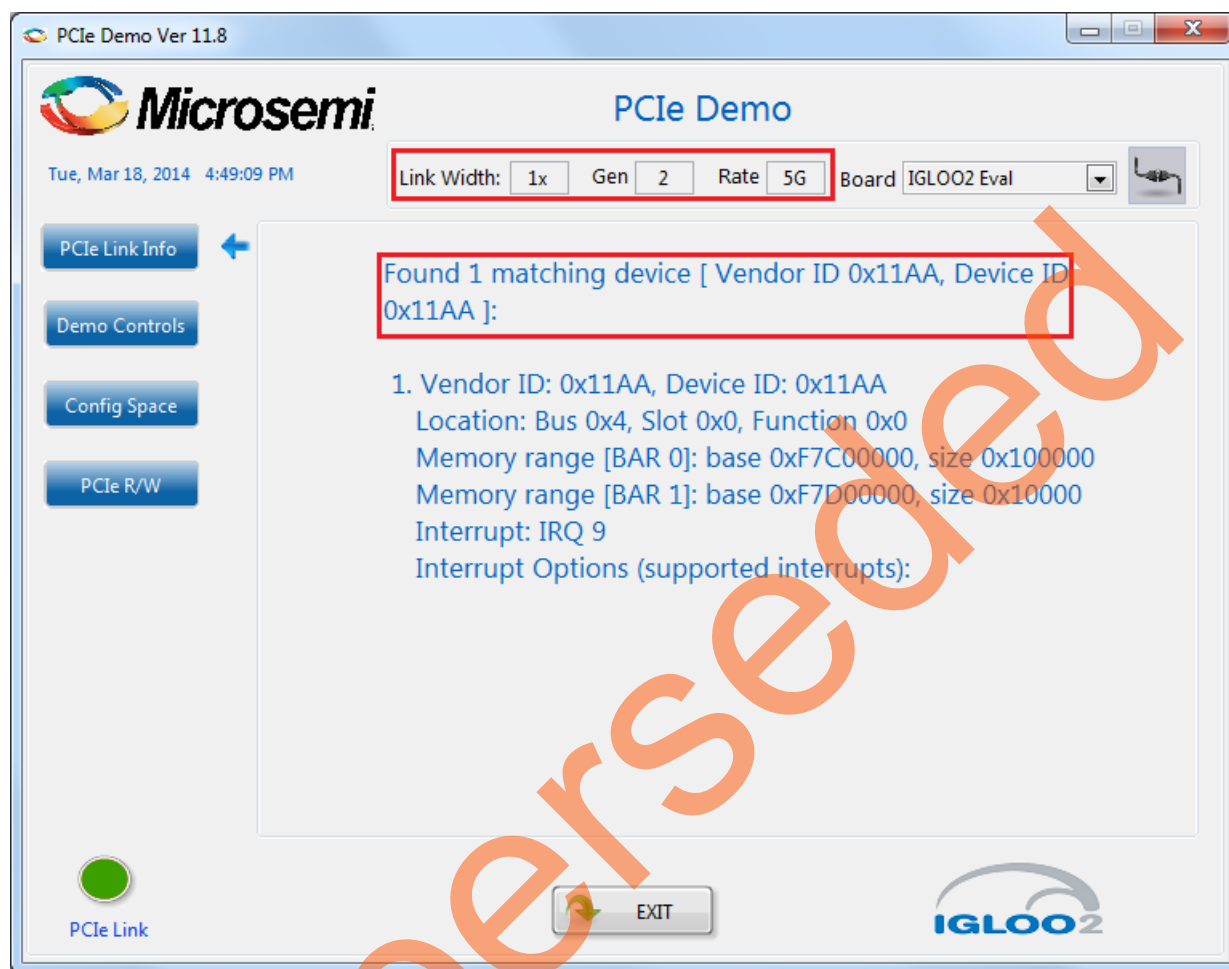

Figure 59 • Version Information
- Click the **Connect** button at the top-right corner of the GUI. The messages are displayed on the GUI as shown in Figure 59.